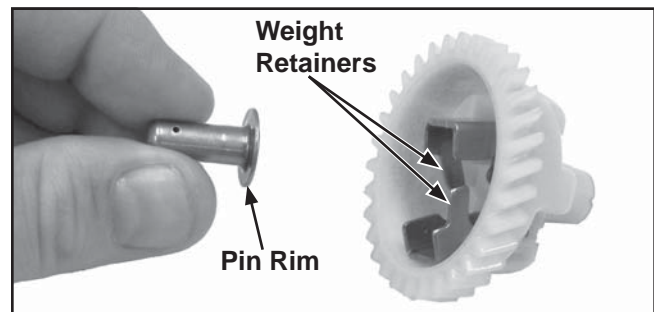

Figure 11-10. Governor Gear Assembly.
1. Assemble the governor gear pin into the governor gear so the pin rim is held in place by the weight retainers. See Figure 11-10.